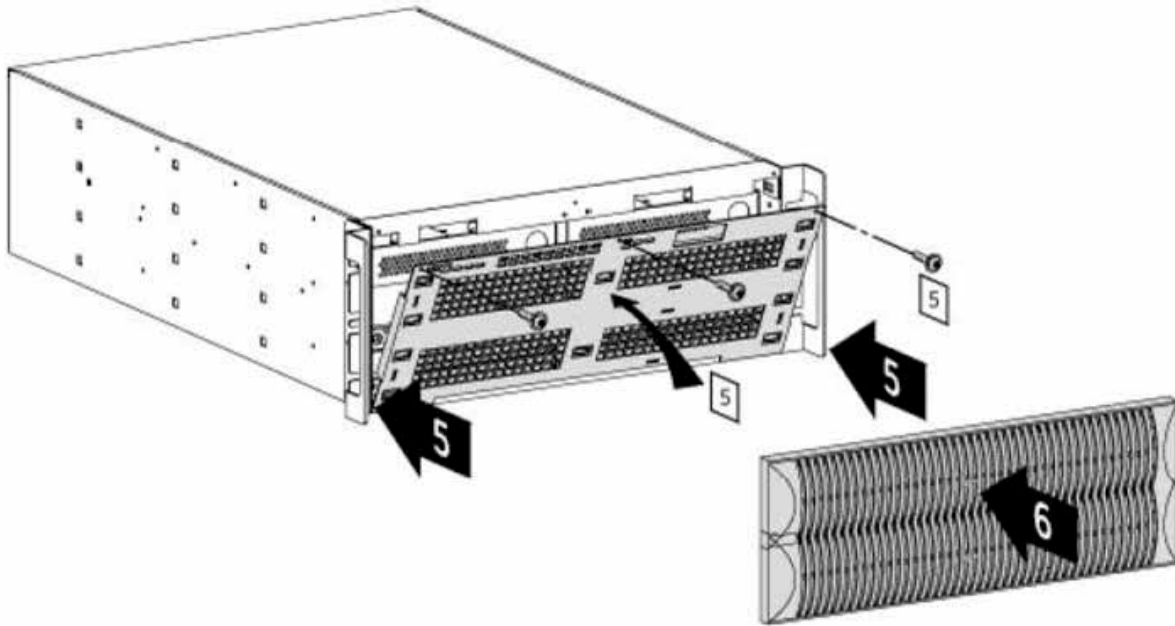

FIG 23 – XPRT-10KVA BP5 BATTERY PACK COVER INSTALLATION
5. Install the battery grille in front of the battery compartment with 3 screws (see FIG 23)
6. Mount the 2 battery pack front covers (see FIG 23)